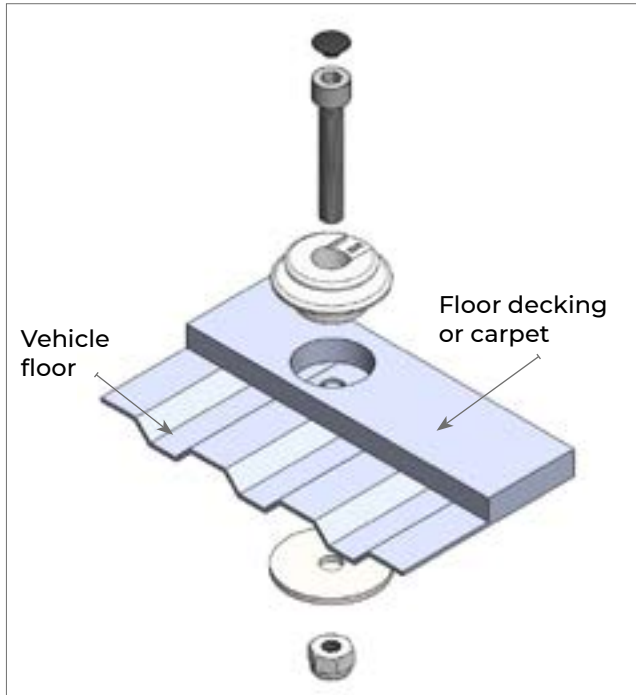
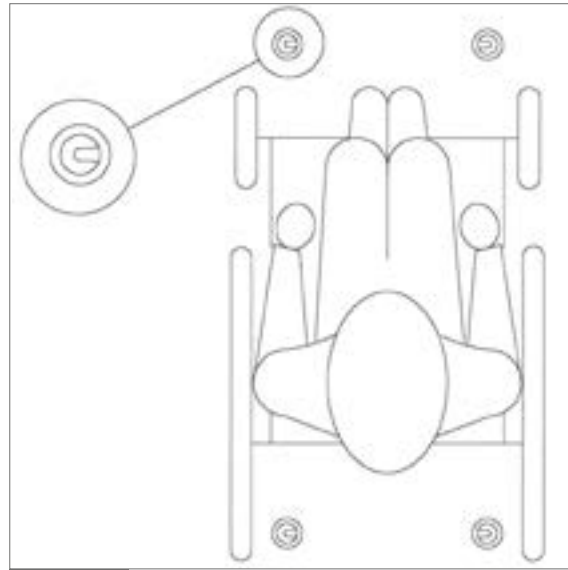

Figure 3
Figure 4
4. Clear the debris and install the floor anchors as shown in Fig 3, with the anchor slot orientated as shown in Fig 4. Tighten to a torque of 25-30Nm from underneath, using the nut and underfloor spreader plate.
It is essential that the slot in each floor anchor is orientated as shown in Fig. 4